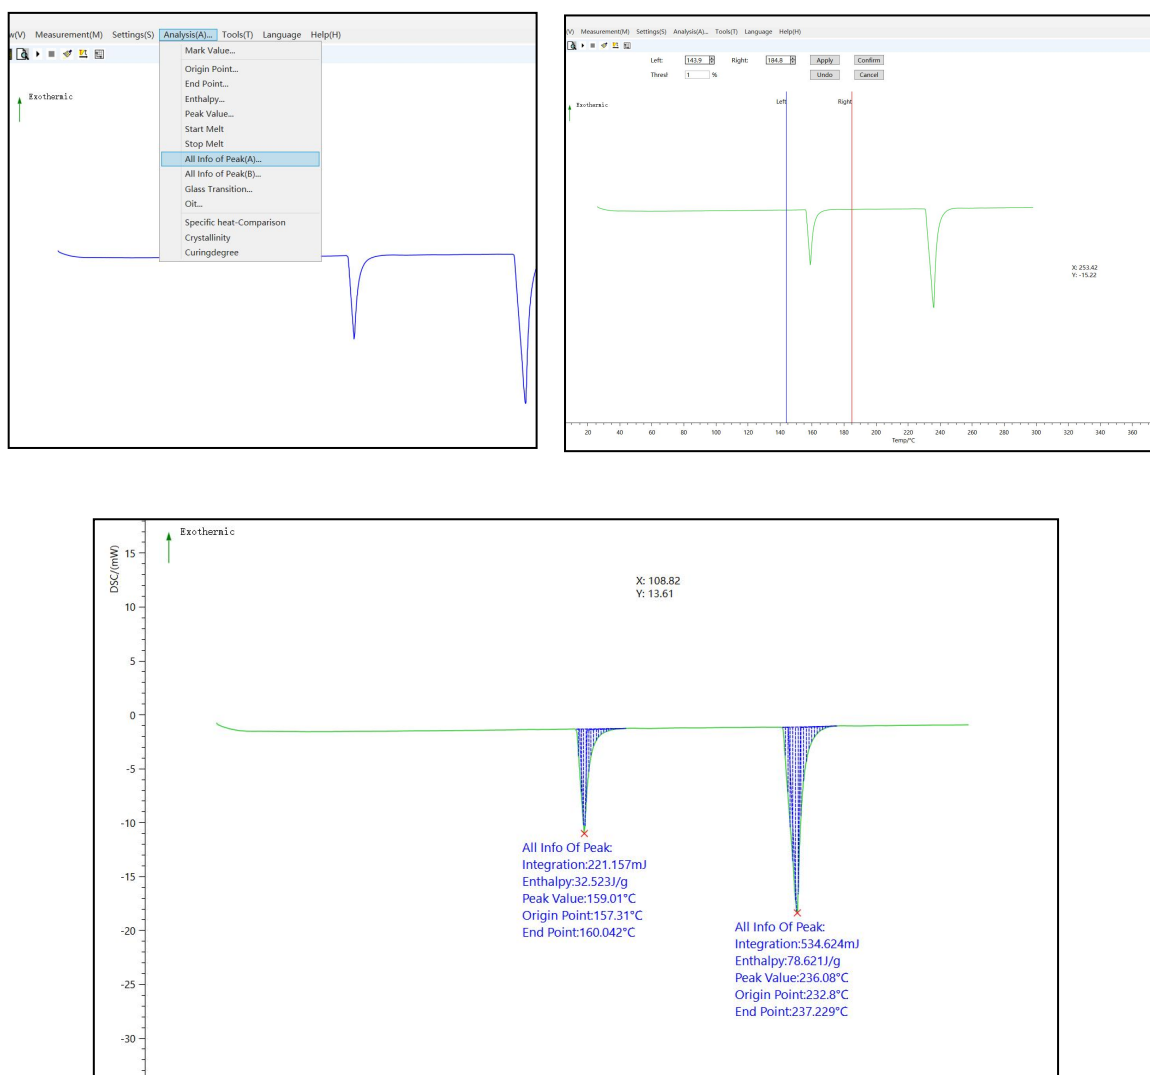

Figure 7-3 DSC profile of tin particles
6. Figure 7-3 shows the DSC curve of pure tin. The theoretical melting point of pure tin is 231.9°C, while the instrument-measured melting point $T_{eo} = 232.5^{\circ}\text{C}$, with the measured fusion enthalpy $H = 44.2272\text{J/g}$.